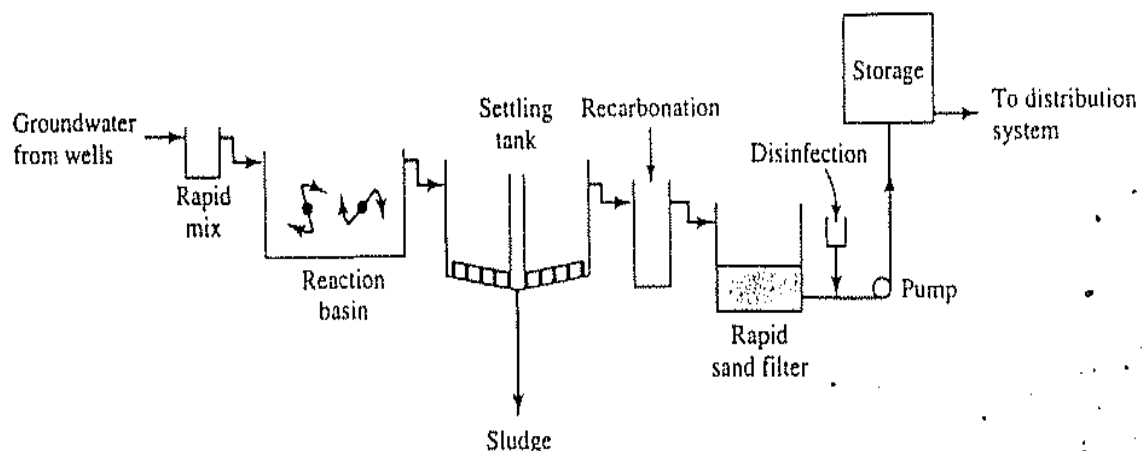

Figure10-3 Flow diagram of a water-softening plant
- 3) Softening plants (Figure 10-3) (used to treat waters having a high hardness level, typically groundwater)